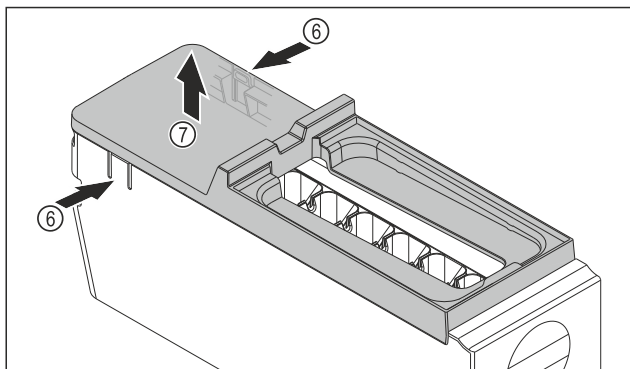

Fig. 86
- Removing the EasyTwist-Ice body cover: Push the tabs Fig. 86 (6) on both sides of the EasyTwist-Ice body with one hand.
- Use the other hand to remove the cover Fig. 86 (7) upwards.